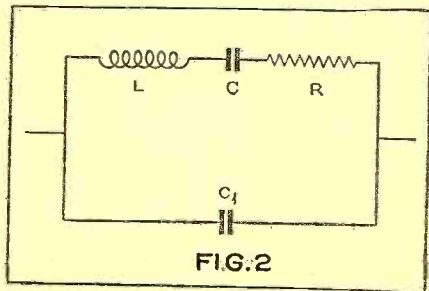

FIG. 2
Painstaking experiments with various types of "plugless" coils have convinced the author that many of the claims of "dead-end" losses have been very much exaggerated. In fact, we found that in about 95% of the cases the non-sensitive and critical condition was not caused by losses at all, but simply because of an overdose of regeneration due to an improperly proportioned tickler winding. When the proper value of plate coil was used and the windings of the grid coil were spaced as shown in Figure 2, the circuit became normal at once and the sensitivity, selectivity and ease of handling on the 13-24 and the 24-39 meter bands were just as good as when the conventional plug-in coils were used. However, it should be clearly understood that very much of the success obtained with this particular type of "plugless" coil will depend upon the methods of winding and switching. The plate coil must be coupled to the grid end of the tapped coil and the windings of the latter must be spaced at least $\frac{3}{8}$ inch or more. The band-change switch is arranged in such a manner that the unused portion of the coil is short circuited at all times.
The coil and the inductance switch are probably the most difficult items to construct, although even these are easily made. As shown in Figure 2, the coil is of the tapped variety, the change from one band of frequencies to another being accomplished by the simple process of shorting out the unnecessary portion of the winding. In this particular coil the windings are placed on a one inch bakelite form, taps being taken off at the fourth, seven and three-fourths and fifteenth turns. *Whenever a tap is taken off, the next winding must be spaced at least 3/8 inch or more from the turns of the preceding coil.* If the windings are not spaced in this manner losses will take place in spite of every precaution. The tickler coil is wound in the reverse direction to that of the grid winding in order to reduce the detuning effect of the regeneration control and is coupled to the *grid end* of the tuning coil. Do not wind this coil between the turns of the grid coil! Four turns of No. 28 enameled wire, close wound, will give sufficient excitation on all bands without saturation at the high-frequency portion of the tuning range.
The author was reluctant to give up the advantages gained through the use of the new low loss insulating materials; so, after searching through a dozen mail order catalogs and failing to find anything which corresponded to our idea as to what a low-loss inductance switch should be, we built the one illustrated herewith. As shown in Figure 2 the home-made wave-change switch is made from an Eby ceramic socket and an old filament rheostat of the midget type. The rivets holding the socket terminals were drilled out and the contacts were removed from the socket. Three switch points were then fitted to the rivet holes, the tops being rounded off somewhat to allow the rheostat arm to sweep smoothly over them. The resistance element was removed from the rheostat and the arm was reversed on the shaft as shown. Finally the socket and rheostat were assembled as shown in Figure 2, being held together by means of two one inch long machine screws. To obtain a "sure-fire" connection to ground, a flexible "pig-tail" wire is soldered to the arm and to the grounded portion of the switch. The positions of the switch knob for the different ranges are also illustrated in Figure 2.
Figure 2. The inductance L1-L2 is similar to that shown in the photo of the 3/4-meter transmitter last month. The antenna loop terminates at the 2 porcelain insulators on the wall of the shield and can be bent to provide the desired degree of coupling.
Connected into an electrical circuit, the piezo-electric quartz plate "appears" to the rest of the circuit as a sharply tuned combination of inductance, capacity and resistance. K. S. Van Dyke,³ investigating this equivalence of quartz plates and resonant circuits, found that a crystal having a fundamental frequency of about 1100 kc. gave the following values for the elements of the equivalent circuit shown in Figure 2:
Van Dyke points out, and later discussion will show, that the series branch of the circuit of Figure 2 corresponds to the vibrating crystal. The shunt capacity C₁ is, in Figure 2, a function of certain crystal parameters which
In Figure 3, which is essentially Figure 2 without the resistance and which will be employed later in the derivation of the elements for the various types of filter networks, the shunt capacity C_h includes the electrostatic capacity of the crystal electrodes, or holder. As will be shown in equations (2) and (3), appearing below, the ratio of C_h to C_e is 125 or greater. This ratio of 125 or more will be used later in the design of the filter networks as a check on certain of the computations.
the 43. The results are shown in curve A of Figure 2. In this case R1 was 1 meg. and R2 was 4500 ohms. The arm on R1 was adjusted for 2 ma. plate current in the 43, with no input. Incidentally, the filament resistor R3 was 200 ohms, 30 watts.
The microphone power supply, Figure 2, should be a separate unit. It is unusual only in the respect that it uses an ample filter. The power transformer should supply in the vicinity of 220 volts at approximately 20 ma. Voltages within 25% plus or minus of this figure do not seem to effect operation to any degree. The greatest limiting factor is the inability of some condenser microphones to withstand a potential of more than 250 volts d.c. Two 30 henry chokes, followed by a good audio transformer primary as the final choke, together with a total of 32 mfd. (450 volts) of electrolytic condenser, comprise the filter. A 5-watt resistor, will often improve stability.
Now assume that we place a resistance of 8000 ohms and one of 12,000 ohms in series across 200 volts as in Figure 2 (a). The voltages across the two resistors must add up to 200 volts, and the currents through them must be alike. Starting from zero voltage, we plot the straight line for the 8000-ohm resistor, which would pass 12½ milliamperes at, for instance, 100 volts, 25 milliamperes at 200 volts, etc. (Figure 3). For R₂ we consider the 200-volt point as zero point, counting our voltage values towards the left; at 200 volts
Now let us put a load in shunt with R₁, as in Figure 2 (b). Let us assume that the load is drawing, for instance, 5 milliamperes. We would like to know now how much the voltage across R₁ decreases due to a 5-milliamperere load current. Obviously, the voltages across R₁ and R₂ must still add up to 200 volts, but the currents are no longer alike, the current through R₂ being 5 milliamperes more than through R₁. In our diagram, this means we have to find a vertical line to the left of P (because to the left of P the currents through R₂ are larger than through R₁), in such a manner that the vertical distance VW equals 5 milliamperes. It is seen that WR is the current through resistor R₁ with a voltage O₁R across it, and VR the current through resistor R₂ with the voltage O₂R across it. The two voltages add up to O₁O₂ = 200 volts, and the difference VW in the two currents is the load current. We could find the position of this vertical line VR with the help of a compass, fitting a length equivalent to 5 milliamperes between these two lines, (Continued on page 781)